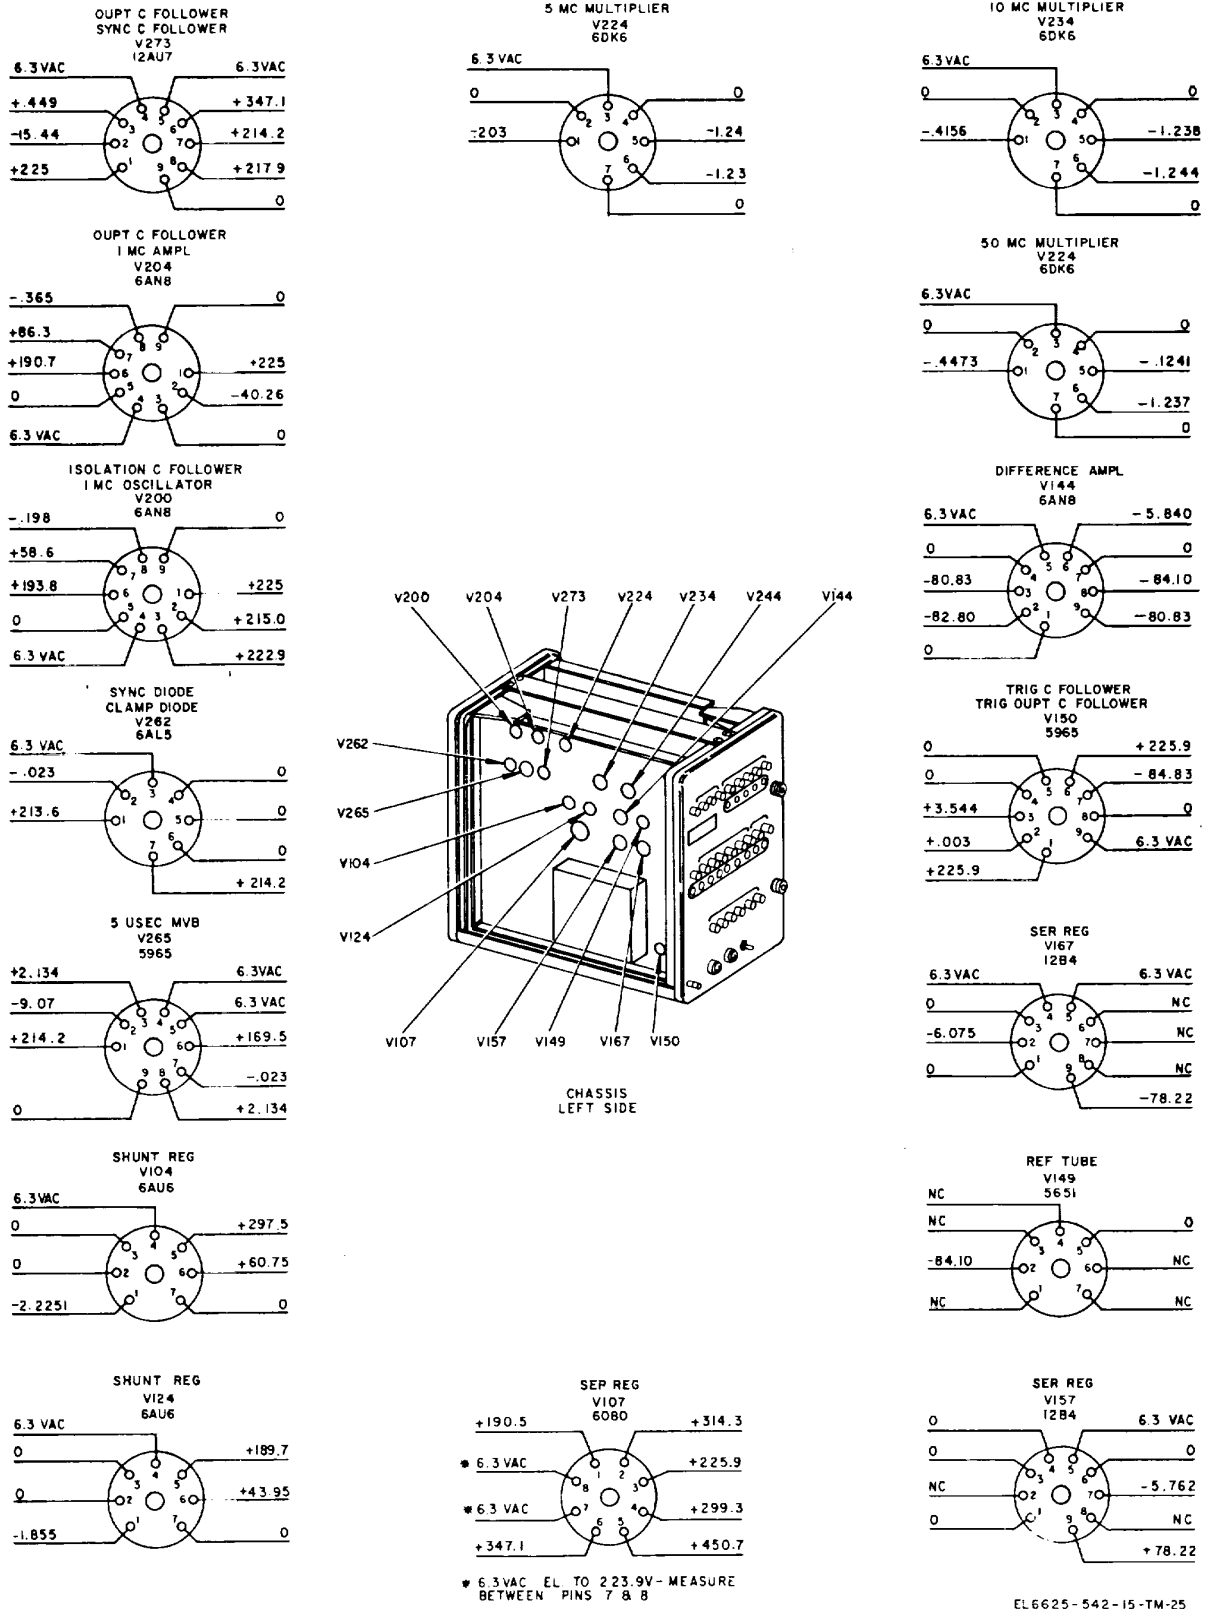

Figure 6-1. Pin voltages, left side.
- (1) Check waveforms and test points as described in paragraph 7-10. Any abnormal waveforms indicate a defective stage. Refer to 4 figures 6-1 and 6-2 for pin voltages.